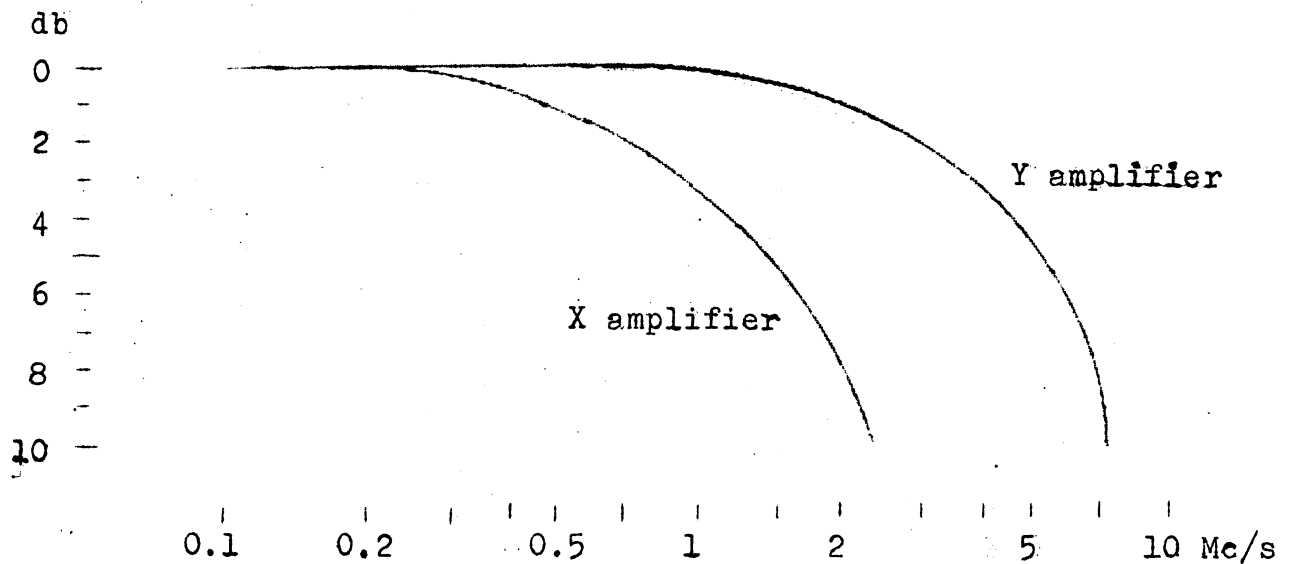

Figure 1 Typical frequency response curves
Typical frequency response curves for the Y and X amplifiers are shown in figure 1 on page 3. The amplifiers are designed to give minimum pulse distortion, i.e. shortest rise time possible combined with a reasonably small amount of overshoot.
- (3) The X amplifier (horizontal amplifier) is a 4-tube direct coupled push-pull amplifier. The maximum overall gain is about 700 giving a maximum deflection sensitivity of 0.7 mm/mV rms. A typical frequency response curve for the X Amplifier is shown in fig. 1. The principle of the X-AMPLITUDE (gain control), the X-BALANCE, and the X-POSITION are identical with those of the Y Amplifier.